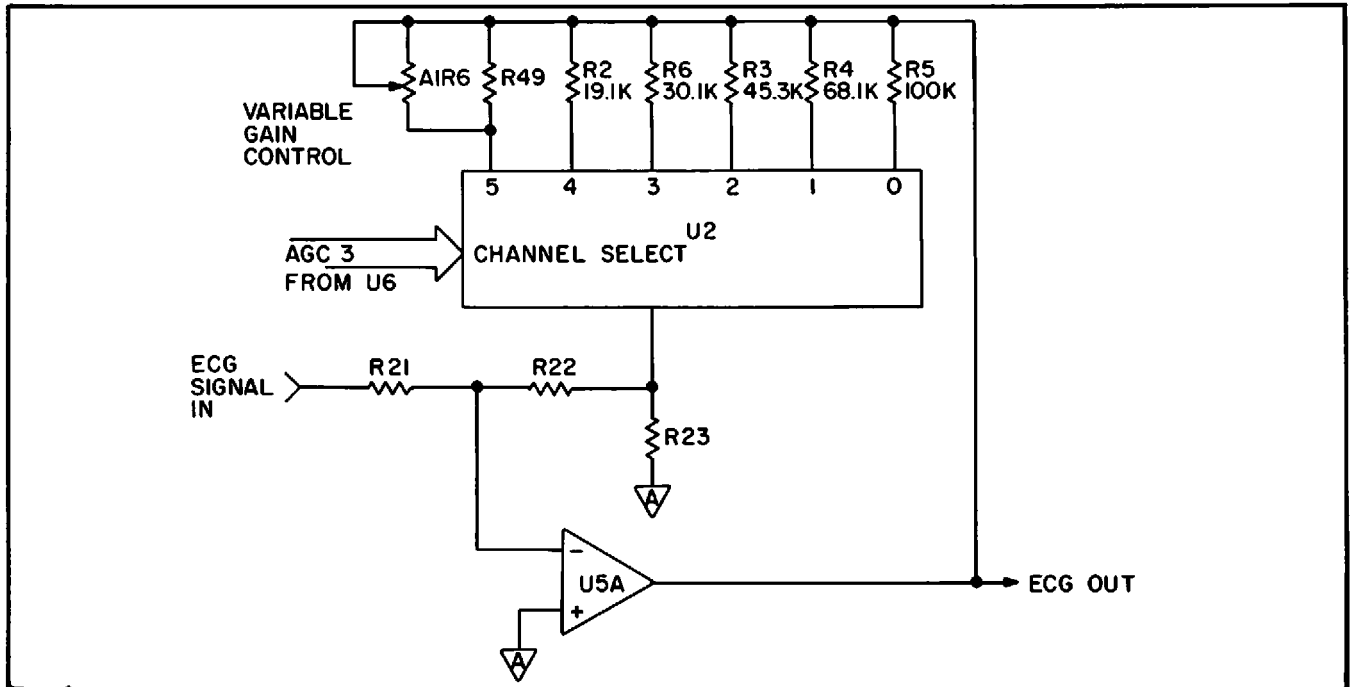

Figure 2-13
2.3.3.2 Auto Gain Attenuator (Fig. 2-13)